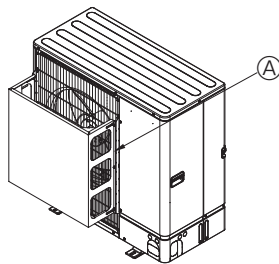

Fig. 1-5
- ② Install an optional air guide if the unit is installed in a location where strong winds from a typhoon, etc. may directly enter the air outlet. (Fig. 1-5)